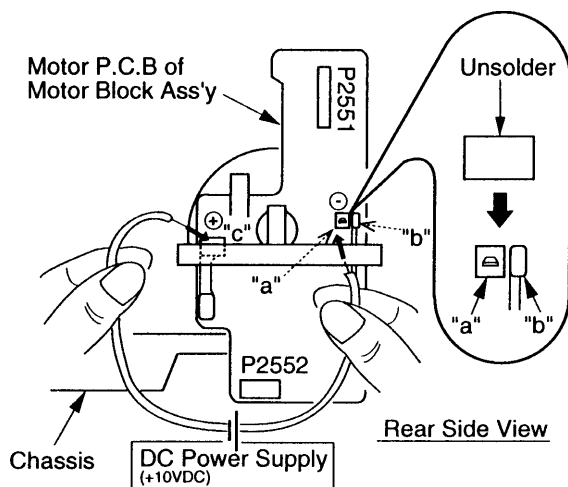

Fig 17 - Electrical Method (1)
1. Remove the solder as shown in Fig. 17 and connect the positive lead of a 10.0VDC power supply to point (c). Connect the negative lead of the power supply to point (a).